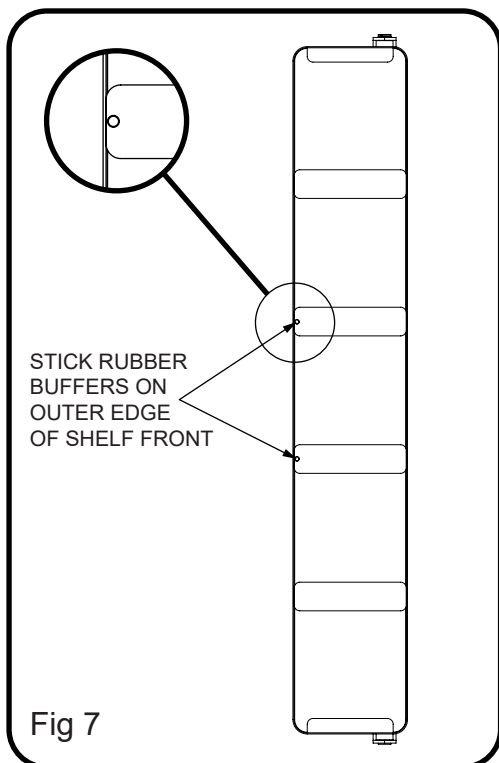
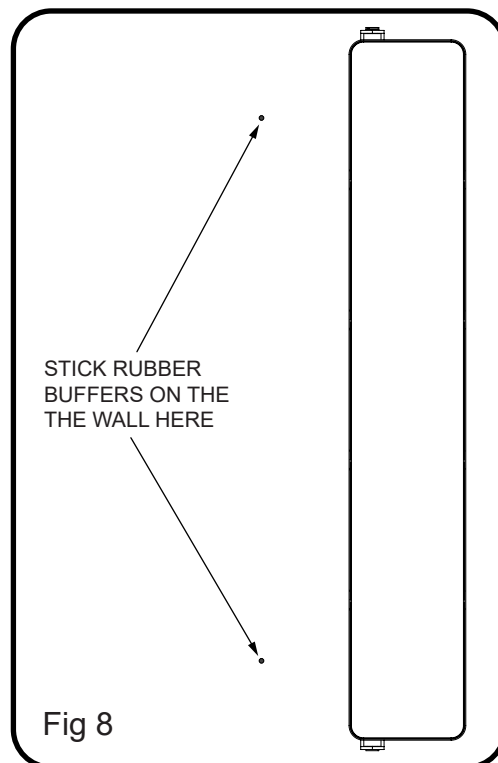

Fig 7
Fig 8
- 10. This cabinet has been supplied with four self adhesive rubber buffers (G) which can be used to cushion the cabinet from any potential contact made with the wall when it is rotated on the wall bracket. If you wish to use the rubber buffers it is suggested that a rubber buffer is placed on the front outer edge of each of the two inner most shelves. Fig 7. If desired, the two remaining rubber buffers can be stuck to the wall anywhere along the line where the edge of the cabinet makes contact with the wall when it is in its fully opened position. Fig 8.